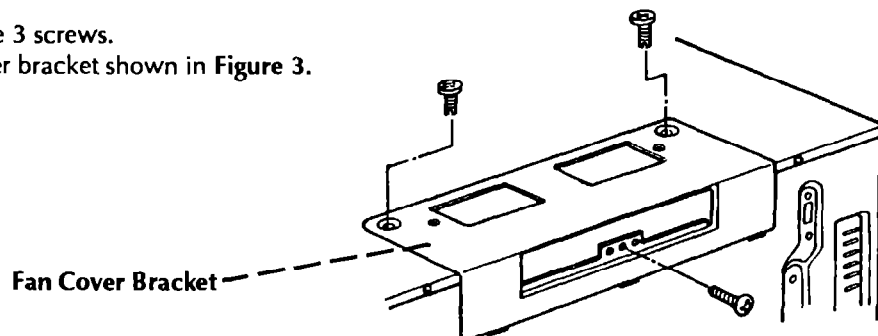

Figure 3
Remove fan cover bracket shown in **Figure 3**.
1. Remove and save 3 screws and fan cover bracket as shown in Figure 3, page 7.
7. Attach the cover to the oven unit with 3 screws as shown in Figure 3, page 7.